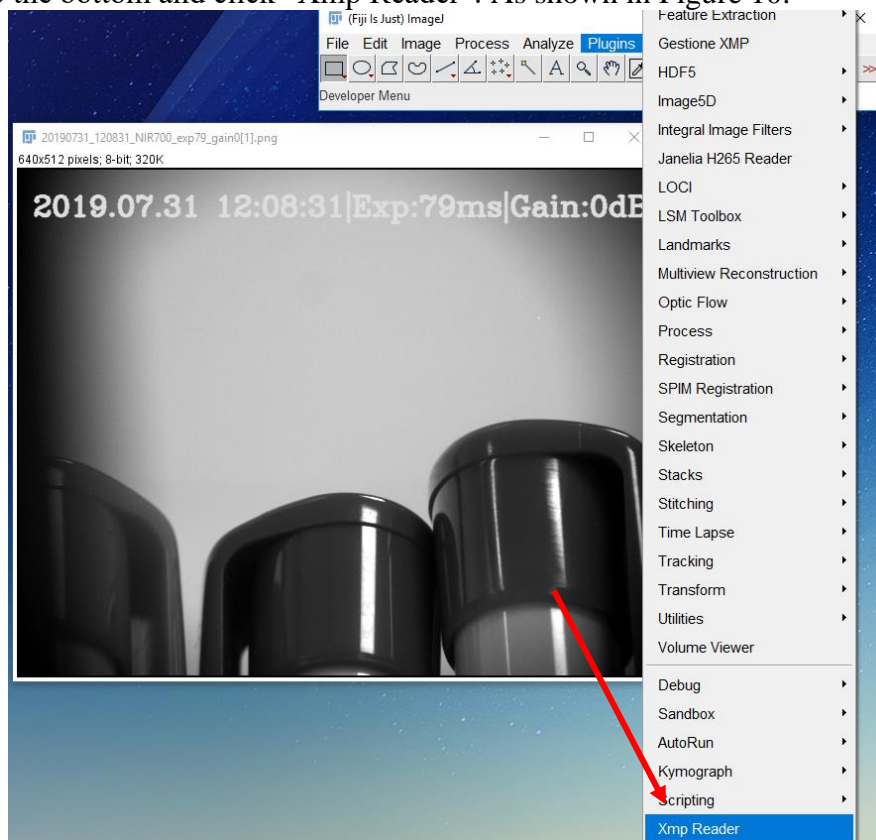

Figure 10: Using the plugin
6. To use the plugin, simply open an image with ImageJ (or Fiji), and then go to Plugins, scroll all the way to the bottom and click “Xmp Reader”. As shown in Figure 10.